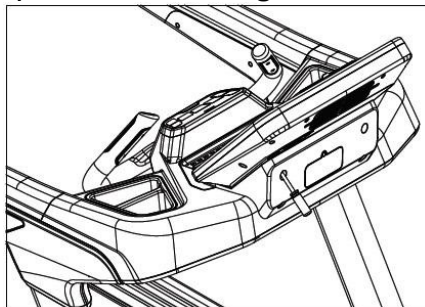

Figure 4.1.1
- 4) As shown in Figure 4.1.1, use screwdriver to remove LED chin cover.**